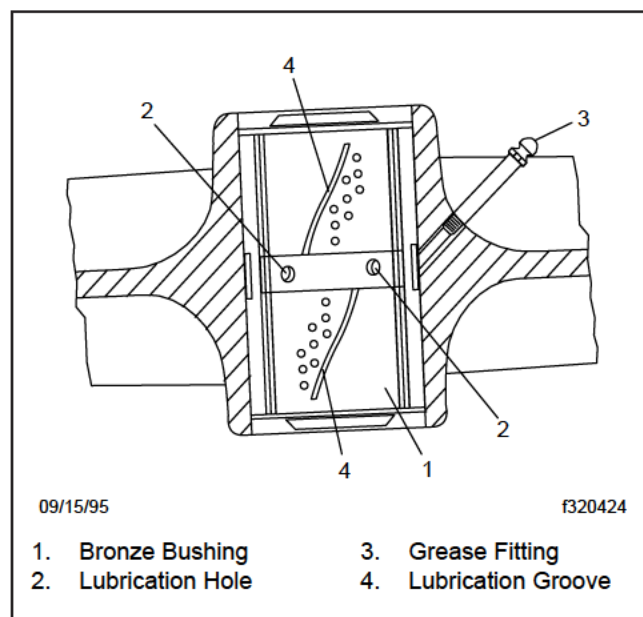

Fig. 15, Hendrickson RTE Series Bushing Lubrication
3. Use a multi-purpose chassis grease and lubricate the bronze, ball-indented bushings in the spring eyes at the grease fitting. See Fig. 15. Continue to lubricate until grease exits both ends of the bushing. If the pin will not accept lubricant, remove the pin and clean the lubrication channels where lubricant may have hardened. Remove the safety